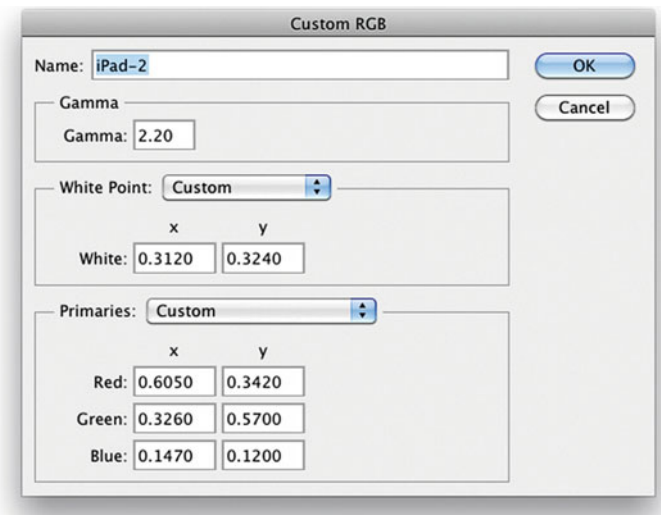

FIGURE 19.11 Creating a Custom RGB color space for the iPad 2 in Adobe Photoshop's Color Settings window.
6. Name and save this color space (Figure 19.11).